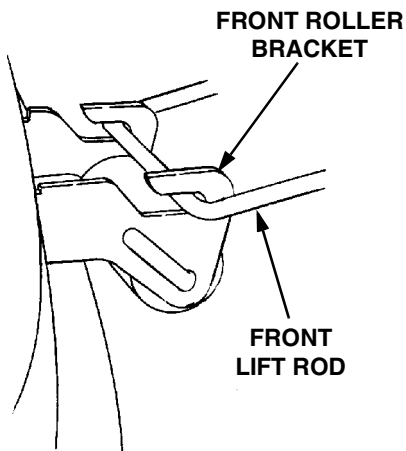

Figure 52
5. While holding the front lift rod up, slide the mower deck forward until the rod aligns with both front roller bracket slots. Lower the lift rod into the front roller bracket slots and slide the deck rearward to engage the lift rod fully forward in the slots of the deck front roller bracket (Refer to Figure 52).